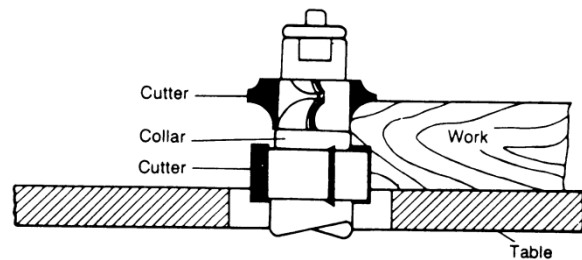

Figure 19
3. The collar between cutters method (Figure 19) has both the advantages and disadvantages of the first two methods. This method is used primarily when shaping both edges of the work piece.